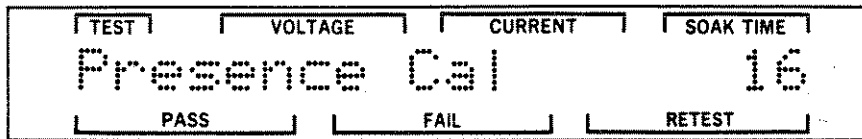

Figure 3-17. Presence Calibration Screen
STEP 3. Press the DOWN pushbutton. The display will change to indicate the Presence Calibration value. Figure 3-17 is an example of this screen. For more information, refer to Presence Calibration Screen, Section 3.4.3.4.